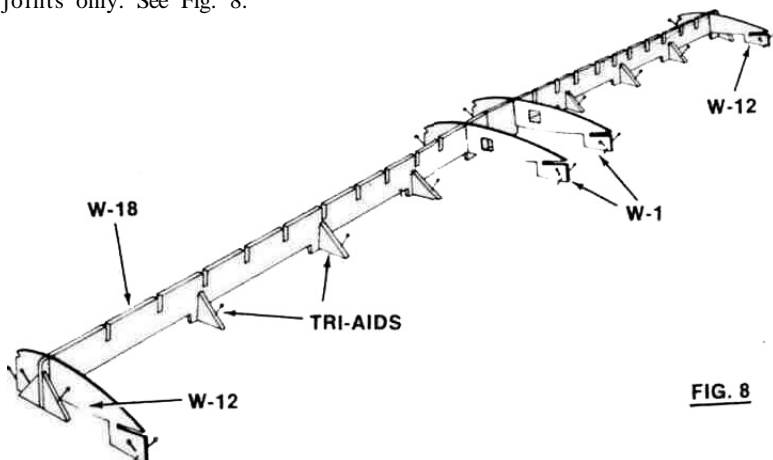

**FIG. 7**
10. Glue motor-mount sub-assembly between sides. See Fig. 7. Glue  $\frac{1}{2}$ " x  $2\frac{3}{4}$ " x  $11\frac{7}{8}$ " block between sides and to F-3 and F-4.